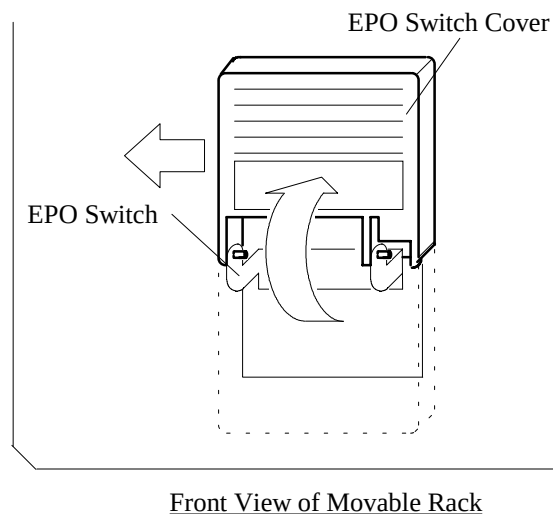

Fig. 4.8-2 Removal of EPO Switch Cover
- i. Attach the EPO Switch cover. Refer to Fig. 4.8-2.